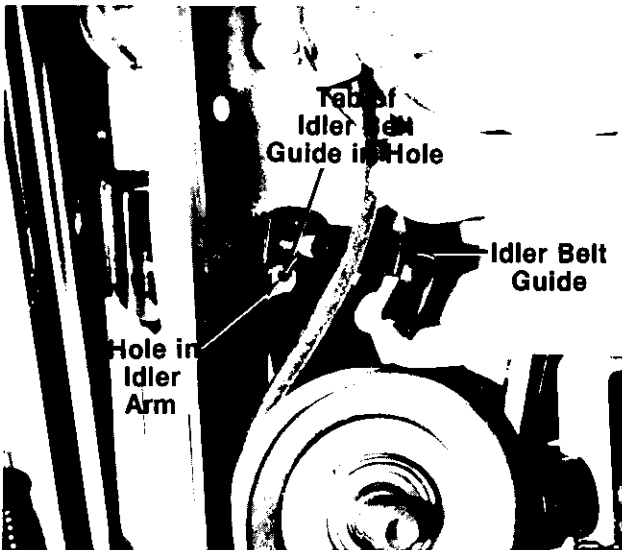

FIGURE 31.
5. Push the belt guide away from the mower drive pulley and slip the belt over mower drive pulley. See figure 31. Replace belt.